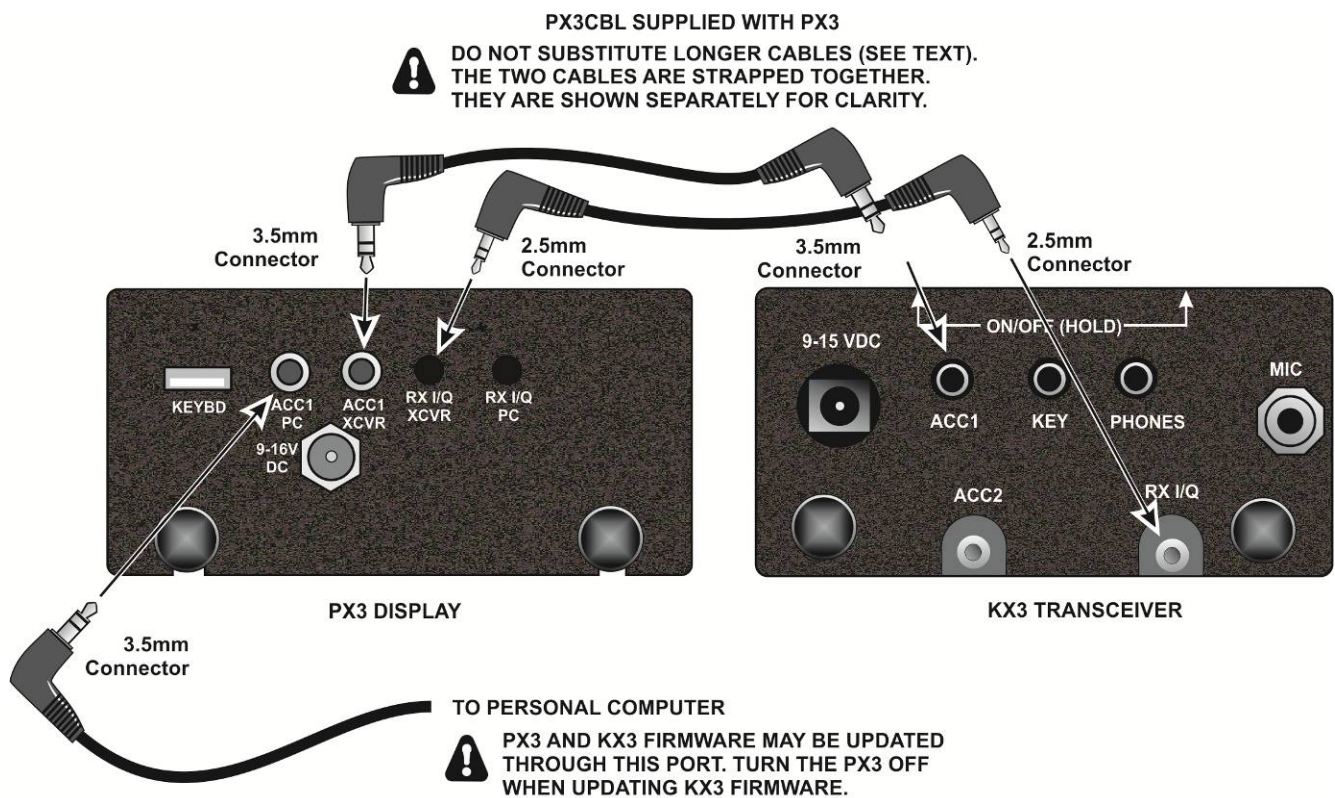
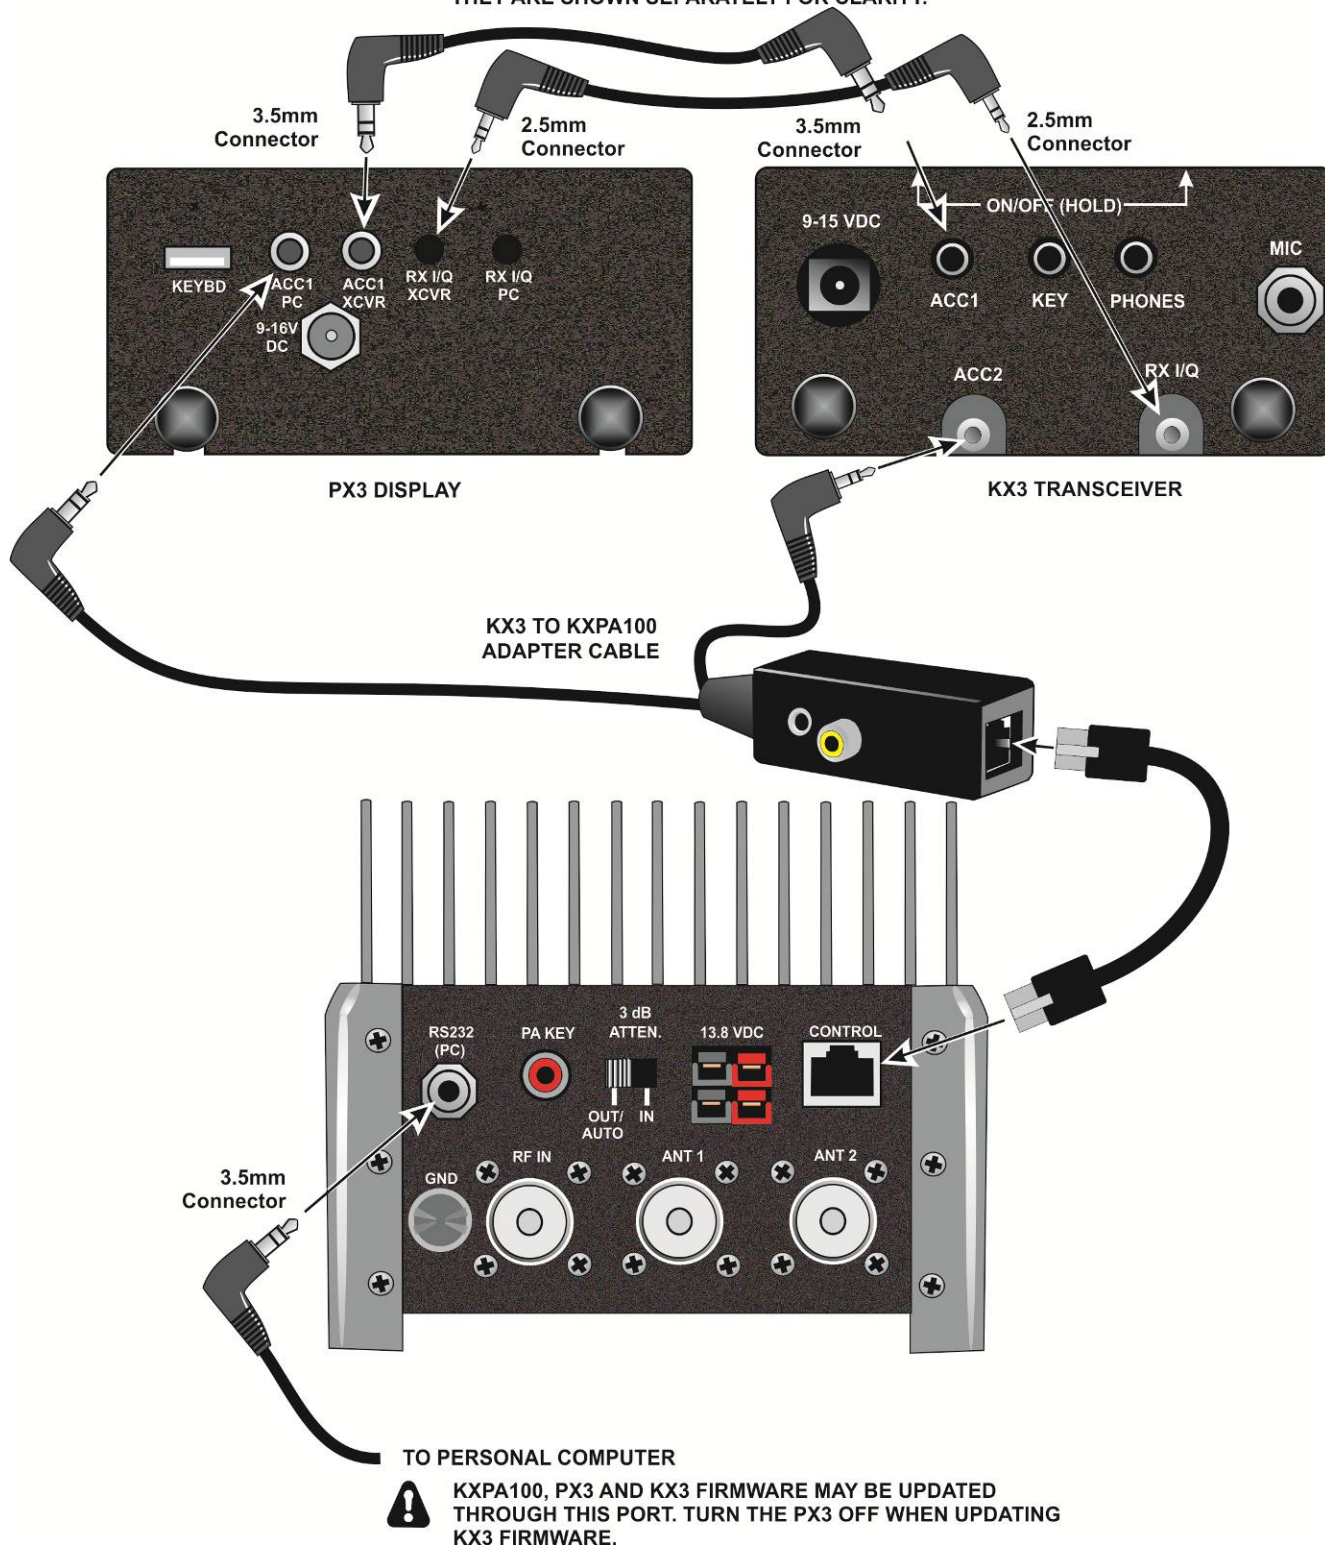

Figure 2. Basic KX3-PX3 Cabling.
Figure 3. PX3 Signal Cabling with KXPA100 Amplifier and KX3 to KXPA100 Adapter Cable.
Connects the PX3 to your KX3 (See Figure 2 on page 8 or Figure 3 on page 9).
<p>Setup and Connections</p> 	<p>Position the KX3 and PX3 as shown in the photograph on the cover, with the PX3 on the left side of the KX3. This keeps the PX3 away from the RF fields around the KX3’s antenna connectors that can interfere with the PX3. Do not substitute longer cables for the PX3CBL set provided. Doing so may allow noise pickup from various sources, including switching power supplies, 60-Hz AC, ground loops, and interface cables. You can pass the PX3CBL cables connecting the KX3 and PX3 under or behind the PX3.</p> <p>⚠ When adjusting the legs to position on your PX3, be sure the thumb screws are loose. They thread into the legs, and forcing a leg into position without loosening the thumb screw may tighten the thumb screw so much it becomes very difficult to loosen.</p> <p>Connect a dc power supply to the 9-16 VDC input jack on the PX3 side panel (see Specifications, page. 10 for more about the power requirements). A power cable with a right angle 2.1 mm barrel connector is supplied. Connect the wire with the white strip to the positive (+) terminal on your power supply. If you purchased the optional PWA121V1A-US power supply for your PX3, plug it into a 100 to 240 volt mains outlet. It is provided with a right-angle cable adapter (PW2.1RA) that you can use for a neater cable installation.</p> <p>⚠ We recommend that you turn off the external supply before connecting power to the PX3. Some power connectors have an exposed center terminal that can create a short circuit if it touches the metal ground when it is being inserted.</p> <p>If your KX3 installation includes the Elecraft KXPA100 amplifier connected using the KX3 to KXPA100 Adapter Cable, connect the PX3 as shown in Figure 3 on page 9.</p> <p>If you do not have the KXPA100 and adapter cable, connect the PX3 as shown in Figure 2 on page 8.</p>
⚠ See Figure 2 on page 8 or Figure 3 on page 9 for normal cable interconnections between the PX3 and KX3. The following describes the function and pin-out of each connector.
- Connect your PX3 to the KX3 as shown in Figure 2 on page 8 or Figure 3 on page 9.